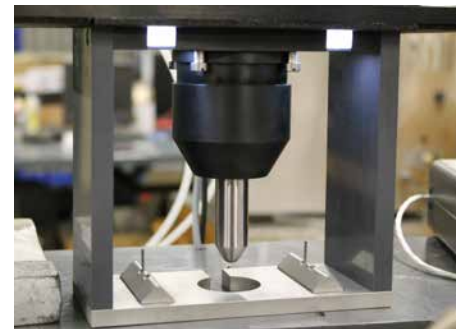

Figure D.5 - Upper Portion of Shroud Attached to Load Cell
5. Once the load nose is secured, lift the upper portion of the shroud around it. Use the back two screws to guide it into place before tightening them and carefully screwing in the front two screws. See Figure D.5.